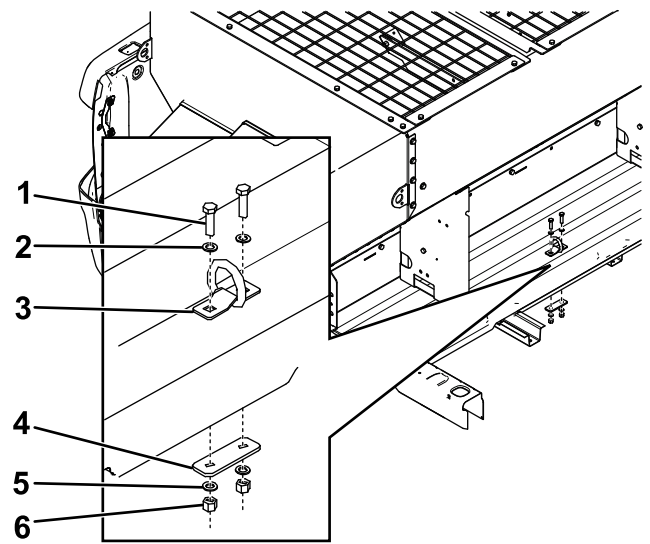

Figure 9
2. Install the D-rings as shown in Figure 9 and torque the bolts to 28 N·m (19.7 ft-lb).